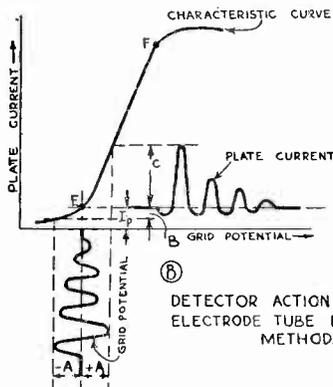

Fig. 43B: Detector action with the tube operating on the bend of the characteristic curve.
69. GRID BIAS METHOD: The first of these is variously known as the "power detection", "plate rectification", "grid bias", or "C" battery method and the manner in which it is accomplished can be most easily explained by reference to the grid voltage-plate current characteristic curve of the vacuum tube, Fig. 43B. The plate
Fig. 43A: Three-electrode tube in detector circuit with potentiometer control of grid bias. to accurately adjust the grid potential to such a value that when no signal is being received, the operating point of the tube is some point E on the lower bend of the tube characteristic curve of Fig. 43B. Now if a signal is received by the antenna, a high-frequency alternating e. m. f. will be set up across the coil and the plates of the condenser C. This is impressed between the grid and filament of the tube, producing at every cycle approximately equal and opposite plus and minus variations (+ and -) of the steady grid potential E. This is represented by the lower curve, drawn as a simple wave for sake of simplicity. From the way the characteristic curve bends, it is easy to see that if the grid potential increases "A" volts + (right) the plate current increases a larger amount (C) than it decreases (B) when the grid potential decreases "A" volts - (left). The "B" variations have been practically eliminated and due to this cutting off of the lower